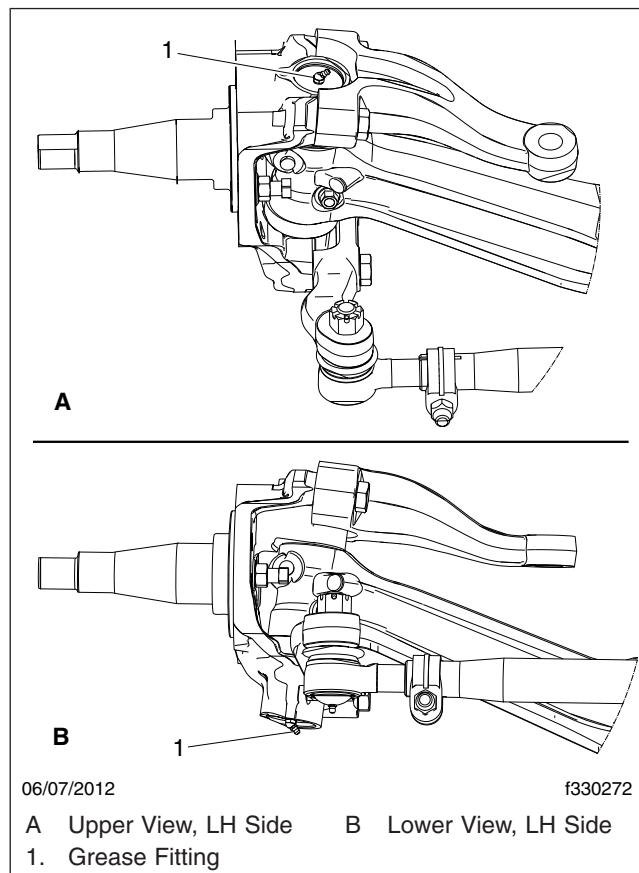
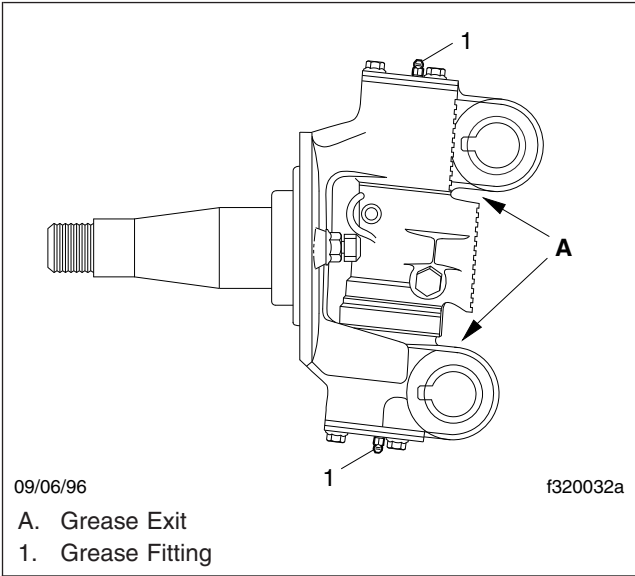

Fig. 1, Grease Fittings, Detroit Axles
Fig. 2, Knuckle Pin Lubrication
3. Apply multipurpose chassis grease, NLGI Grade 1 (6% 12-hydroxy lithium stearate grease) or NLGI Grade 2 (8% 12-hydroxy lithium stearate grease), until new grease is seen at the junctions of the axle beam and knuckles. For locations of grease fittings, see Fig. 1; for grease exit points, see Fig. 2.
plate gasket, continue pumping until new grease is seen at the bushing seal opposite the grease fitting. See Fig. 2.